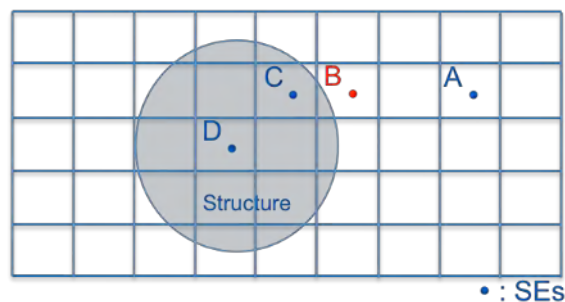

Figure 2 Different SE points in computational domain
2. Calculate the shortest distance from the structure boundary to an individual solution element (SE) point. Using the distance, the SE points can be separated as the inner fluid one (A in Fig. 2), nearby fluid point (B in Fig.2), ghost fluid point (C in Fig. 2), or potential fluid point (D in Fig. 2).